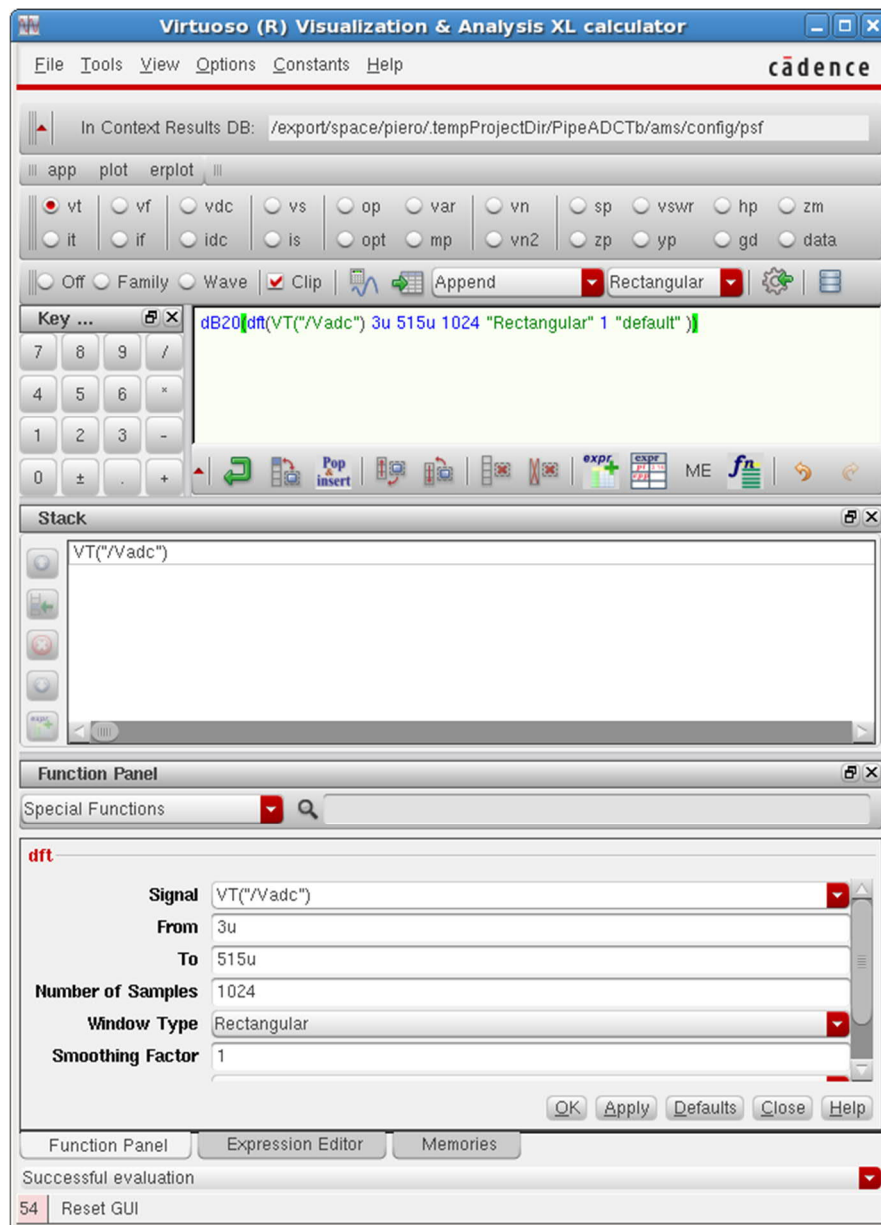

Figure 17. Calculator window for evaluating a DFT.
- d. Open the **calculator** window with *Tools > Calculator....* Set up a **DFT** analysis of the input signal and of the AD/DA-converted output signal, as e.g. shown in Figure 17: select a signal clicking on **vt** (= transient voltage) in the **calculator** and then on the net *Vdac* in the **schematic** view; select **Special Functions** in the **Function Panel** (towards the bottom of the calculator window) and click on **dft**; use the selected **vt** signal in the **Signal** field; write **3μ** in the **From** field (start time of the DFT) and **515μ** in the **To** field (this choice results in an integer number of signal periods), and **1024** in the **Number of Samples** (leave the default values in the remaining fields). Click on **Apply**; click on **Special Functions** and **Modifier** and select **dB20**. Finally, plot the DFT with *Tools > Plot* (or by clicking on the appropriate icon). Figure 17 shows how the calculator window could look like (the exact content depends on the actual steps taken in setting up the DFT analysis).